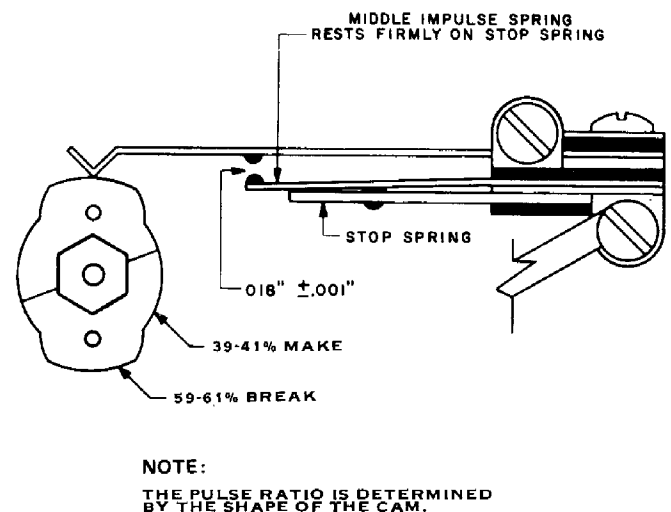

Figure 13. Standard Dial Impulse Cam Adjustment.
- (b) When not engaged by the impulse shorting arm, the middle impulse spring must firmly rest against the heavy stop spring from its own tension (Figure 13).
spring buffer (Figure 13). On Type 24 and 24A36 dials, the middle impulse spring must have a tension of from 20 to 40 grams against the stop spring, measured at the contacts.
- (d) Move the fingerwheel off-normal until the formed tip of the main impulse spring is resting against a lobe on the impulse cam (Figure 13). Check the contact separation between the main impulse and middle impulse spring; it must be $0.018 \text{ inch} \pm 0.001 \text{ inch}$ as adjusted by gauging. (Dials adjusted to percent break may show contact separation slightly outside the specified gauging limits.) An impulse ratio meter or an equivalent meter should be used to check the percent break/make. A pen recorder is also useful in this measurement. The limits should be 59 percent to 61 percent break (41 percent to 39 percent make) readjusted, and 58.5 percent to 61.5 percent break (41.5 percent to 38.5 percent make) test.